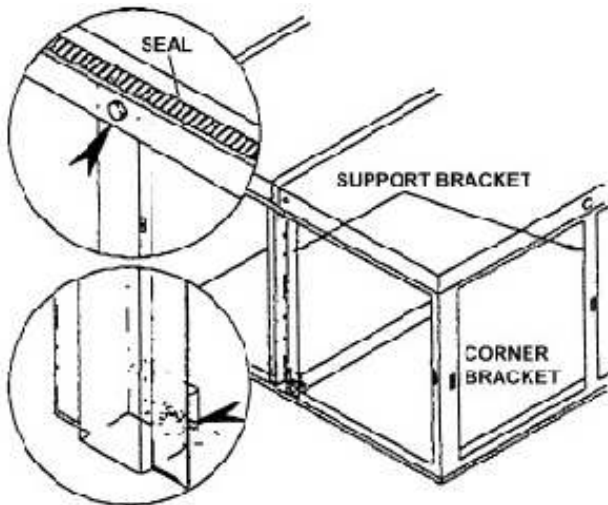

Figure 5 - Removing the support bracket
2. On 20 and 25 ton rooftop units: Remove the support brackets. See Figure 5.